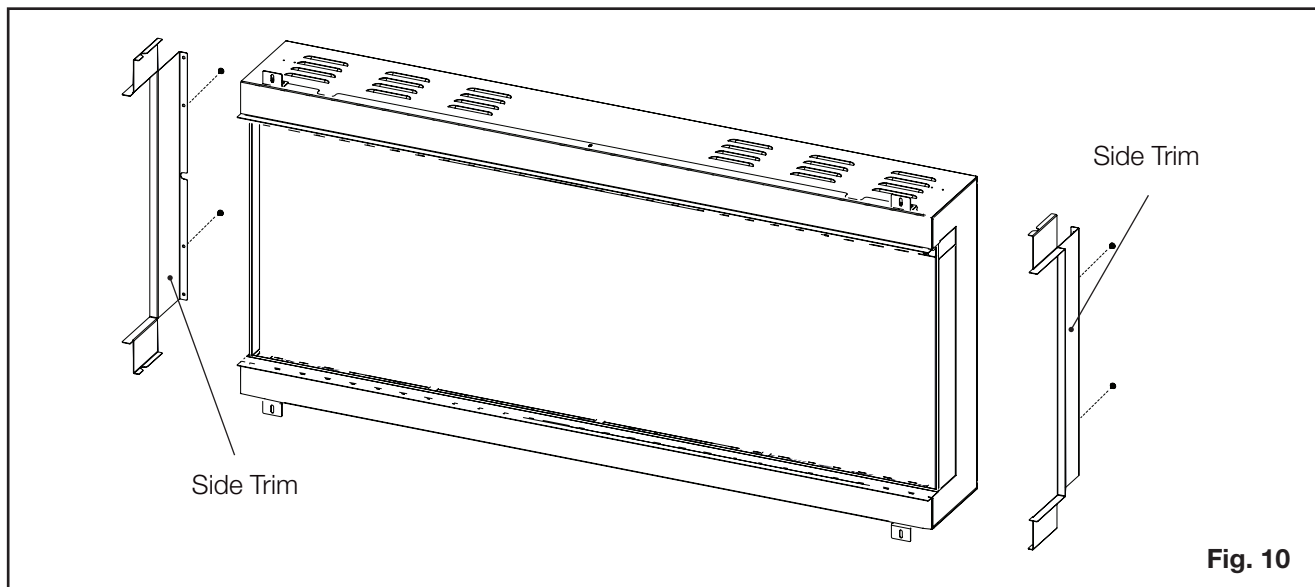

Fig. 10
3. For desired closed side, remove the screws from the back and bottom of the fireplace which align with the panel then secure the panels using the metal screws provided **(Fig. 10)**.
4. Secure both side trims by removing the screws from the back of the fireplace which align with the trim then secure the trim using the metal screws provided. **(Fig. 10)**.